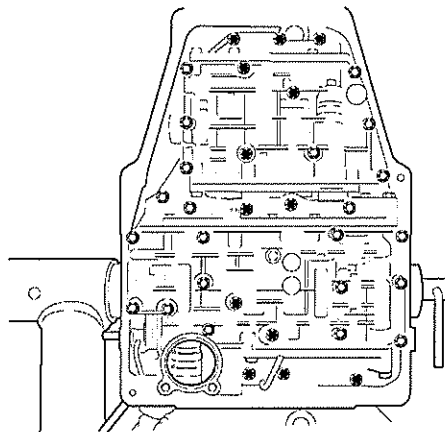

Fig 5 Control unit
- 11.10 Remove all Torx screws marked in black with TX 27 (see Table 1, Ser 3) and large bit, then completely remove control unit (see Fig 5).